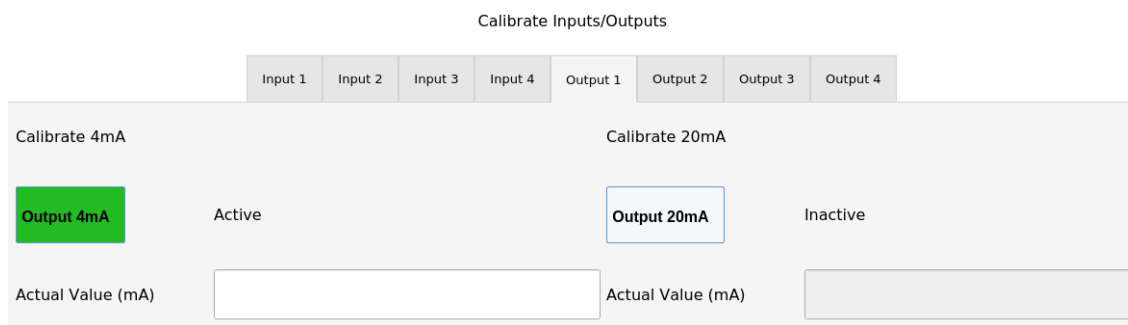

Figure 90: Output Calibration Procedure
9. Select the tab of the Output you would like to calibrate. See example in figure 90 below.